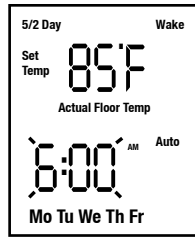

Figure 15
1. To enter the 5/2 Day program, press the Event/Program button once, the LCD display segments will be changed as per Figure 15 shown, the Hour digits and AM digits will flash.
1. To enter the 7 Day program, press the Program button once, the LCD display segments will be changed to as per Figure 15 shows. The Hour digits and AM digits will flash.
1. Pour passer au programme 5/2 Day, appuyer sur le bouton Event/Program, les segments de l'affichage ACL prennent l'aspect présenté à la figure 15, les chiffres Heure et les chiffres AM clignotent.